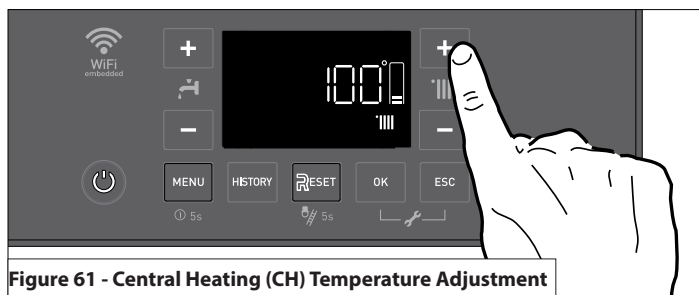

Figure 61 - Central Heating (CH) Temperature Adjustment
It is possible to adjust the central heating (CH) temperature setpoint from the home screen by pressing the CH +/- buttons. See Figure 61. The allowable operating range is limited by the Max and Min Temperature Settings (e.g., Parameters 4.2.5 and 4.2.6) which are adjustable via the Technical Menu. See P. Technical Menu - Access and Navigation.